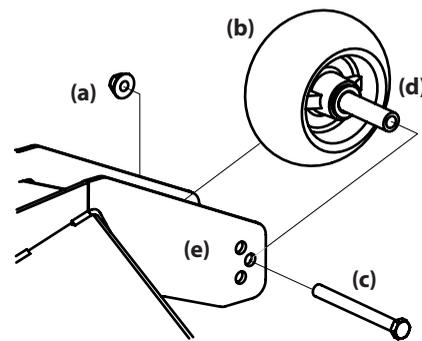

Figure 32
2. Remove the lock nut (a) securing one of the front gauge wheel (b) to the deck. Remove the front gauge wheel (b), hex screw (c) and spacer (d) (Figure 32).